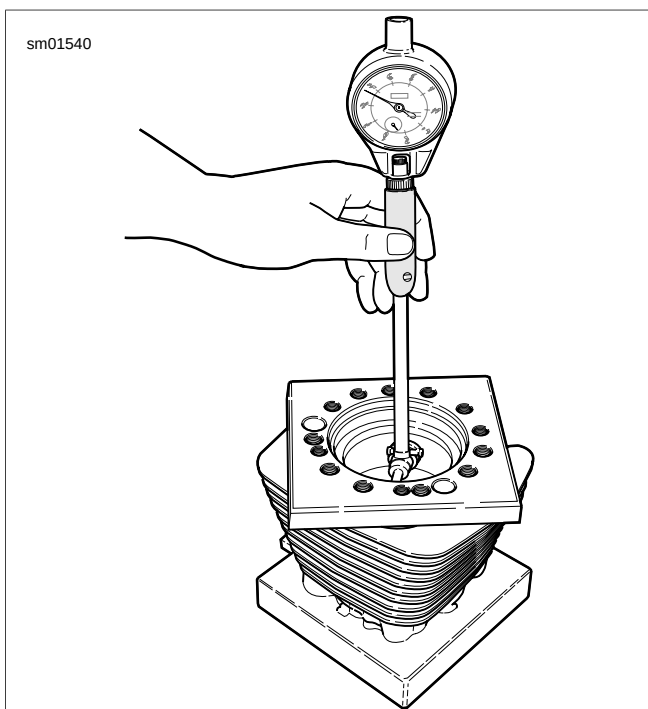

Figure 3-73. Measuring Cylinder Bore
1. See Figure 3-73. Remove any burrs from the cylinder gasket surfaces.